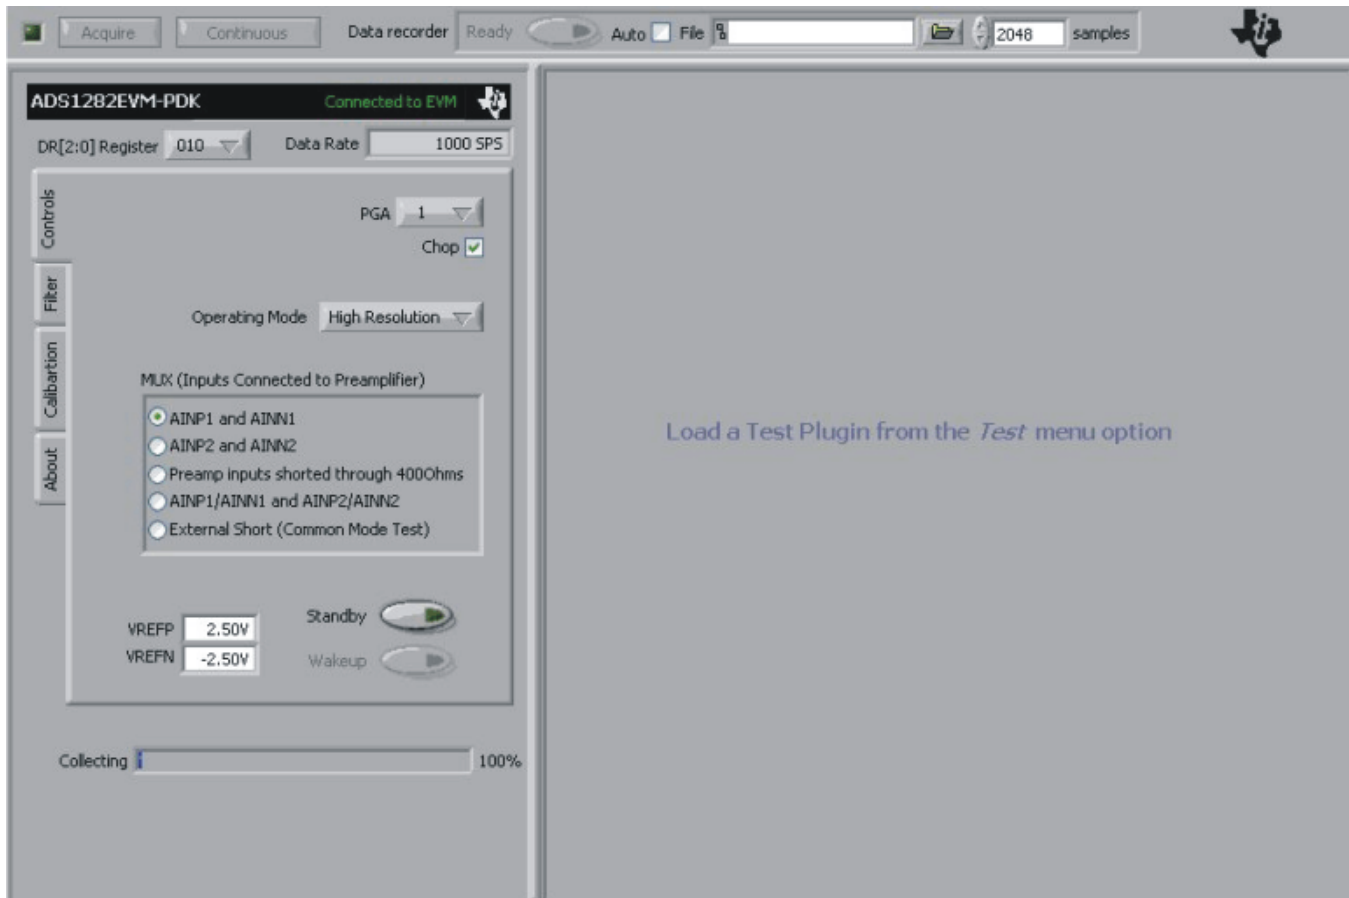

Figure 15. ADS1282EVM-PDK Plug-In Display Window
2. Select *ADS1282EVM* from the EVM drop-down menu. The ADS1282EVM-PDK plug-in appears in the left pane, as shown in Figure 15.
The ADS1282EVM-PDK plug-in for ADCPro provides complete control over all settings of the ADS1282. It consists of a tabbed interface (see Figure 15), with different functions available on different tabs. These controls are described in this section.